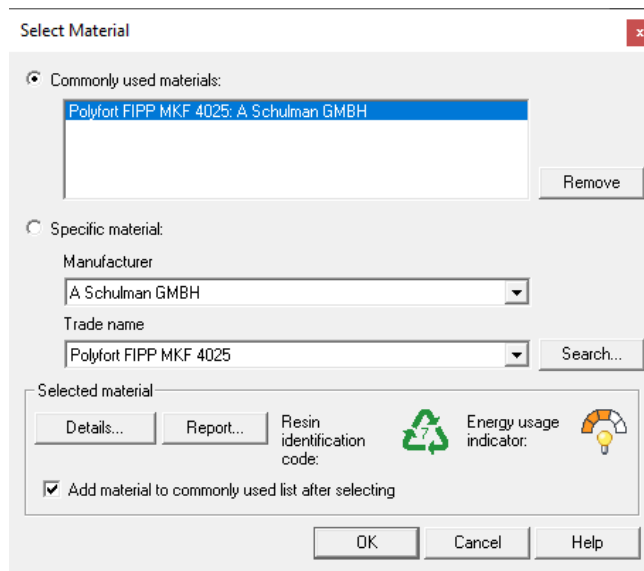

Figure 19-64 The Select Material dialog box
1. Choose the **Select Material** tool from the **Mold Layout** panel of the **Mold Layout** tab of the **Ribbon**; the **Select Material** dialog box is displayed, refer to Figure 19-64.